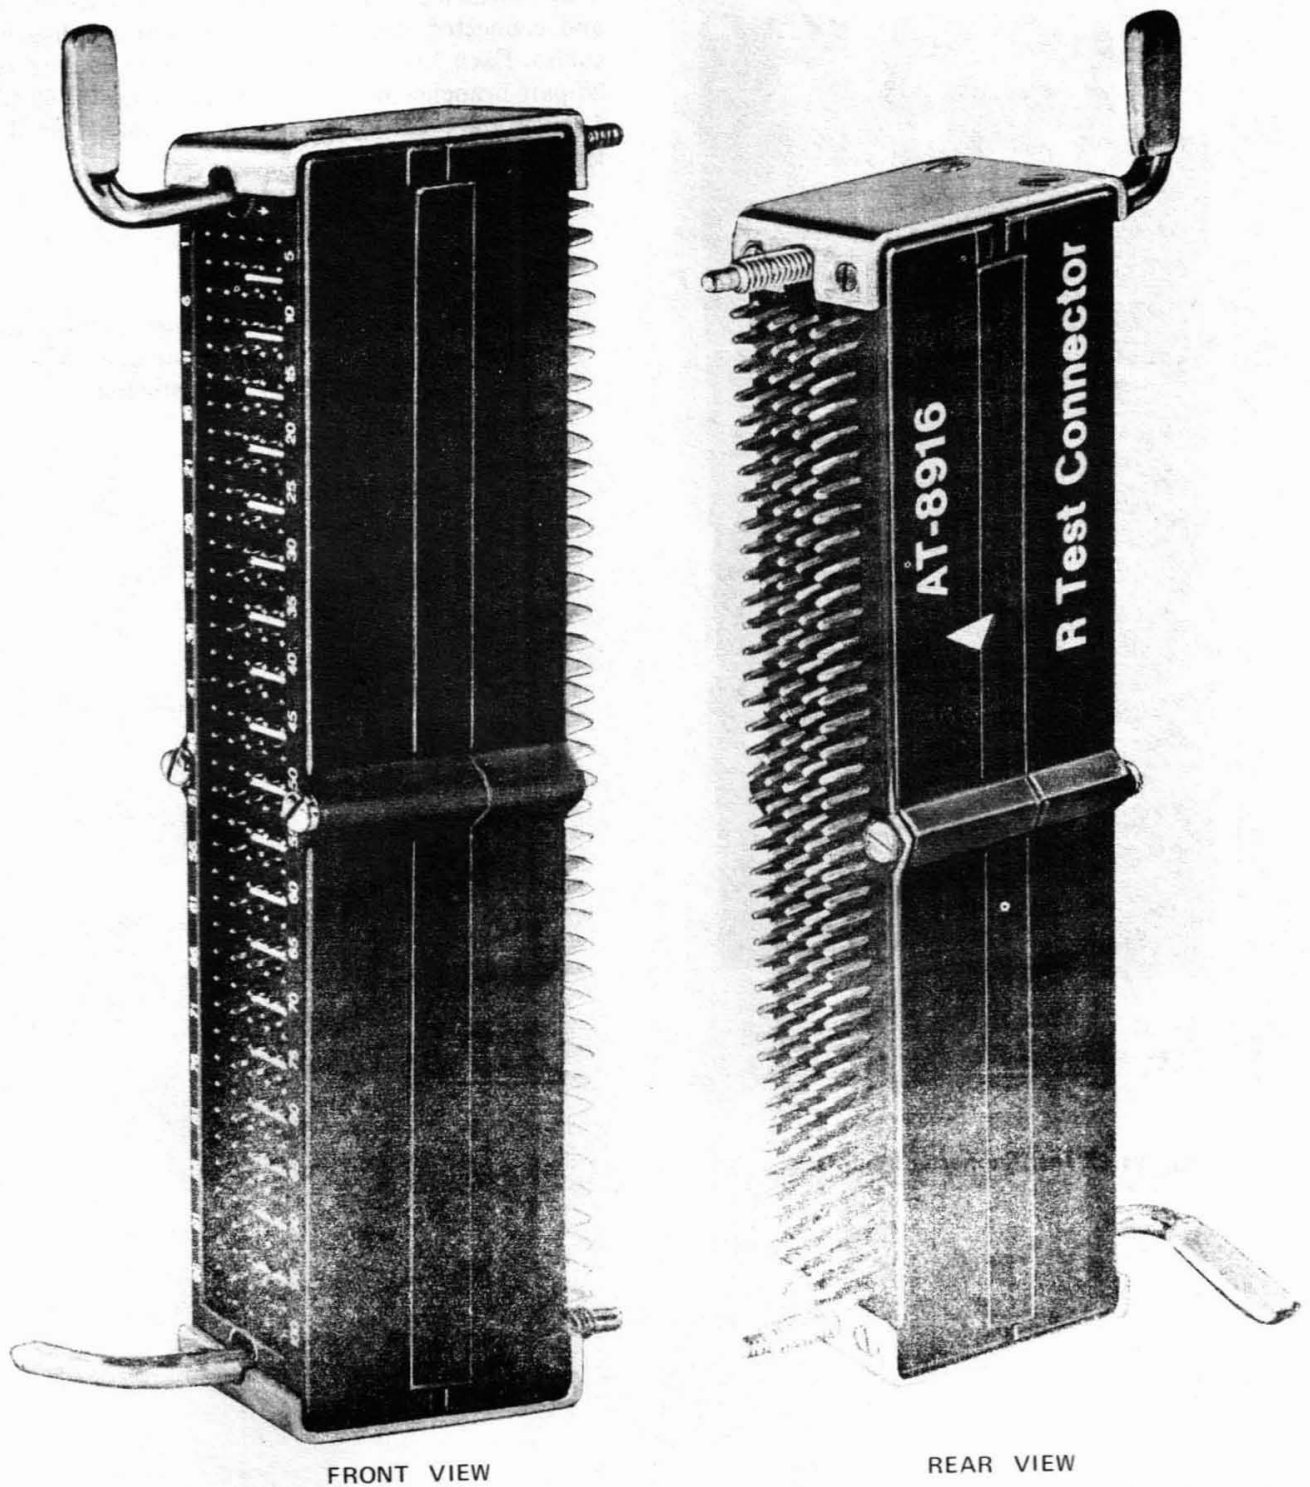
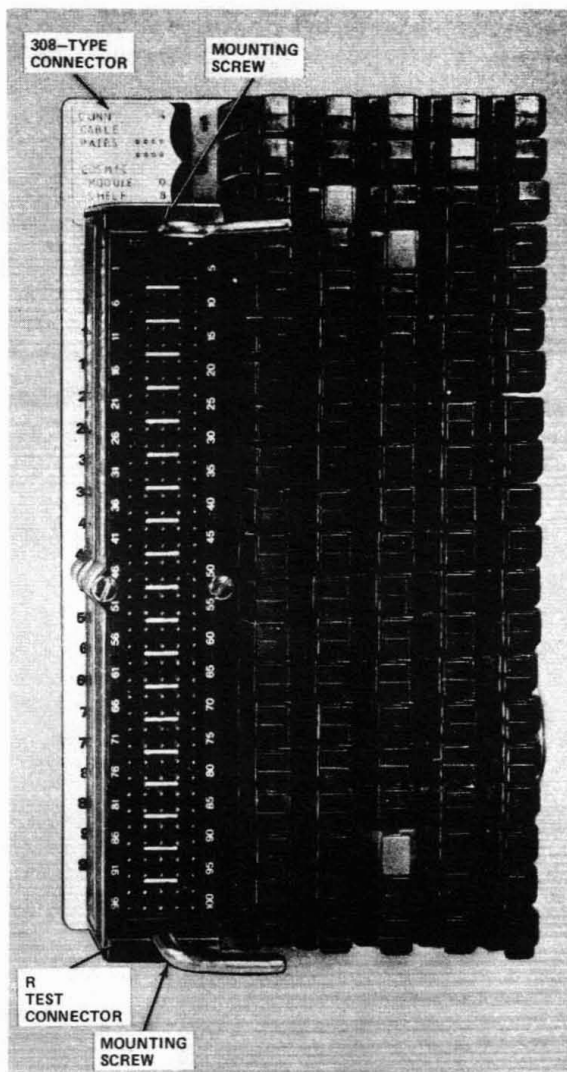

Fig. 10—R Test Connector
Fig. 11—R Test Connector Mounted
2.07 The *R test connector (AT-8916)*, shown in Fig. 10, is similar to the N test connector except that the test access points are at the rear of the connector rather than on the side, and the wiring sequence of the test contacts is different. The R test connector mounts on the 308 (types 1 and 2) connectors (Fig. 11) and provides a means of checking one cable pair at a time.